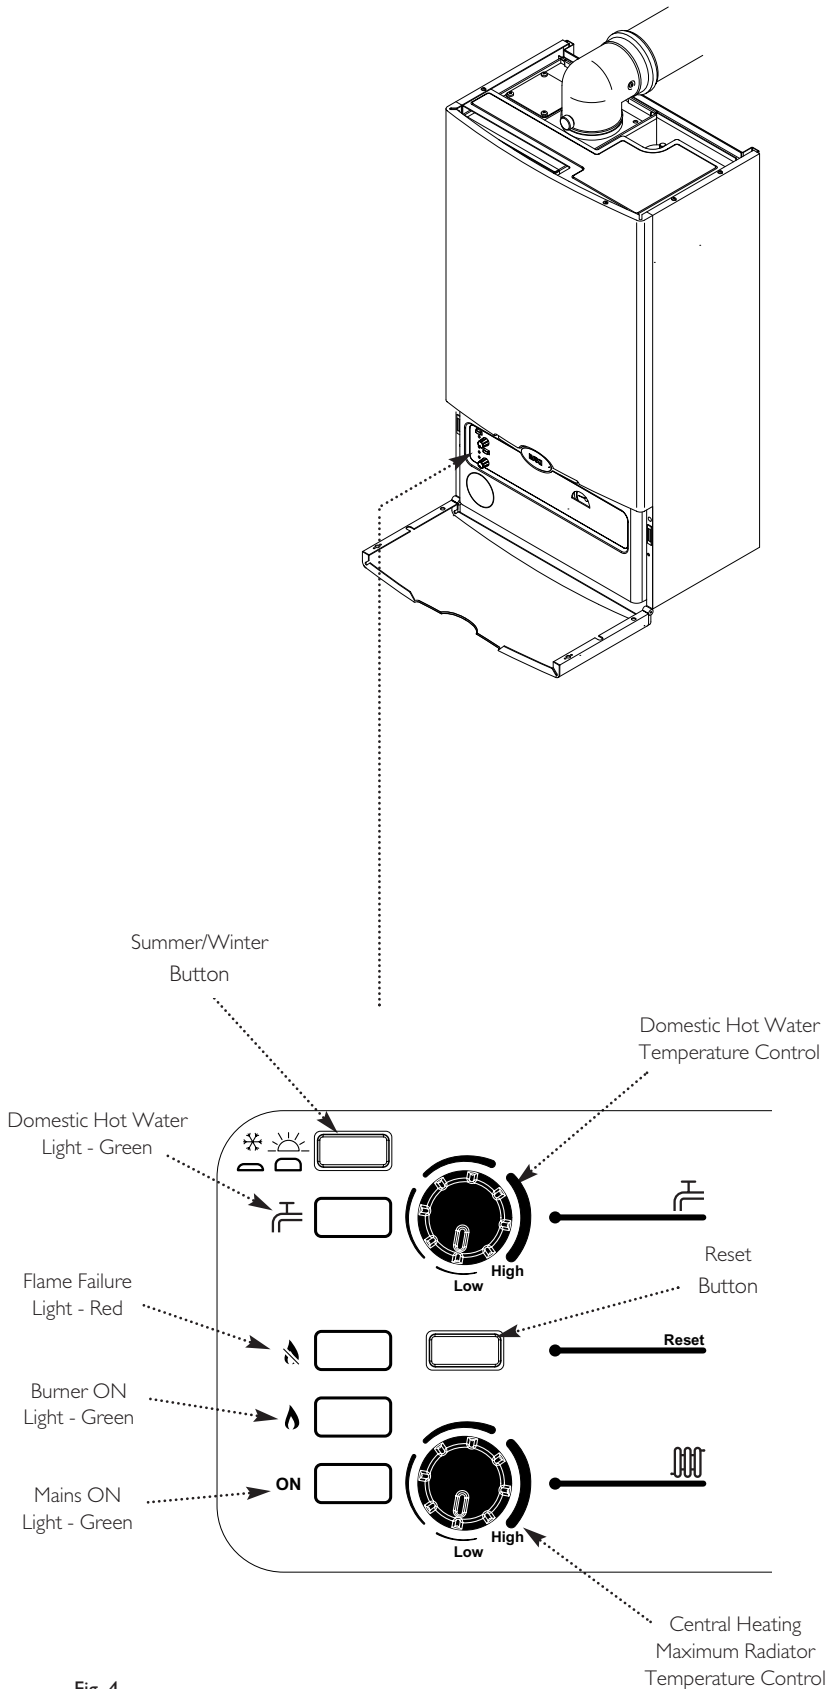

Fig. 4
2. The flame failure light () will be either flashing or permanently illuminated and the boiler will need resetting (Fig. 4).
4.2 Resetting (Fig. 4)